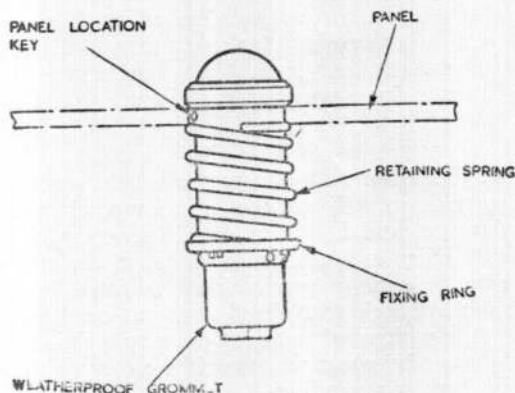

Fig. 1. Indicator mounted on a panel
3. An external view of the indicator is illustrated in fig. 1 which shows it mounted on a thin panel. A retaining spring fits over the indicator body between the panel and a bayonet-type fixing ring, and a key on the top end of the indicator body fits in a slot in the panel to prevent the indicator from rotating.